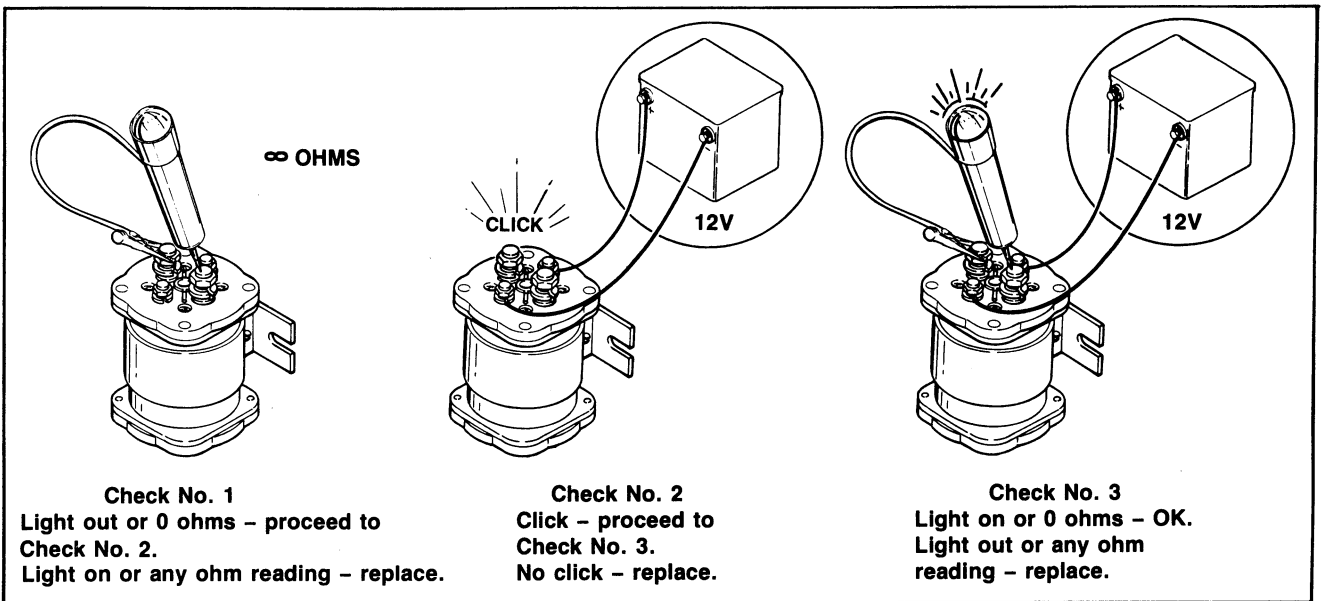

Figure 89 – 3-Step Solenoid Test
39. SOLENOID TESTING (Figure 89)